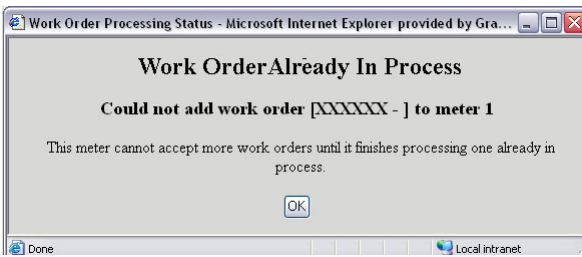

FIG. 59 Work Order Already in Process
2. **Work Order Already In Process** (FIG. 59). This message appears when the PC is attempting to send another work order. No RF communication is